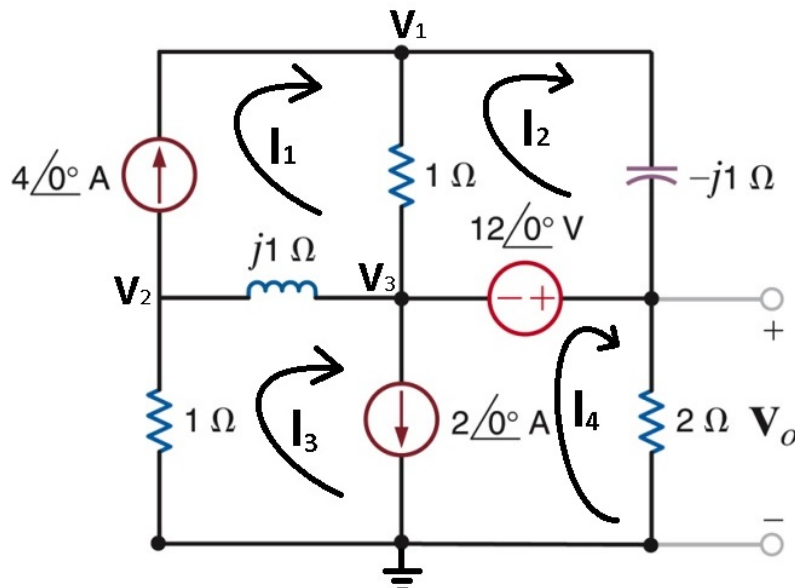

Figure 4: Circuit for Exercise 2
2) Write nodal equations for the circuit in Figure 4 (put in matrix notation). Solve your equations using MATLAB and calculate V_0 . Repeat using mesh analysis. Include both your nodal and mesh equations, MATLAB code, MATLAB solutions (polar form), and any calculations required using your MATLAB solutions in your lab report.